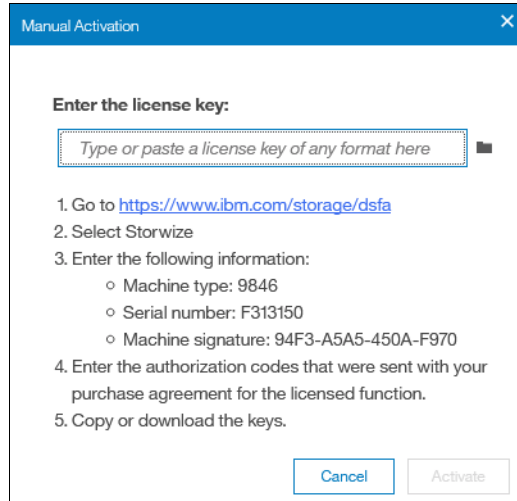

Figure 7-21 Manual encryption license activation window
1. Select **Activate License Manually** to open the Manual Activation window, as shown in Figure 7-21.